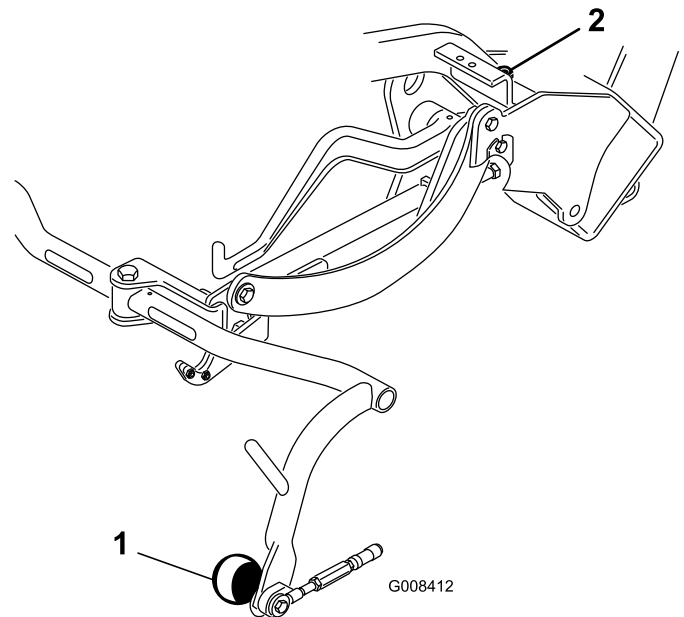

Figure 9
3. If an adjustment is required, loosen the jam nut on the carrier frame stop screw (Figure 9) and rotate the screw up or down to raise or lower the carrier frame. Tighten the jam nut after adjustment is attained.